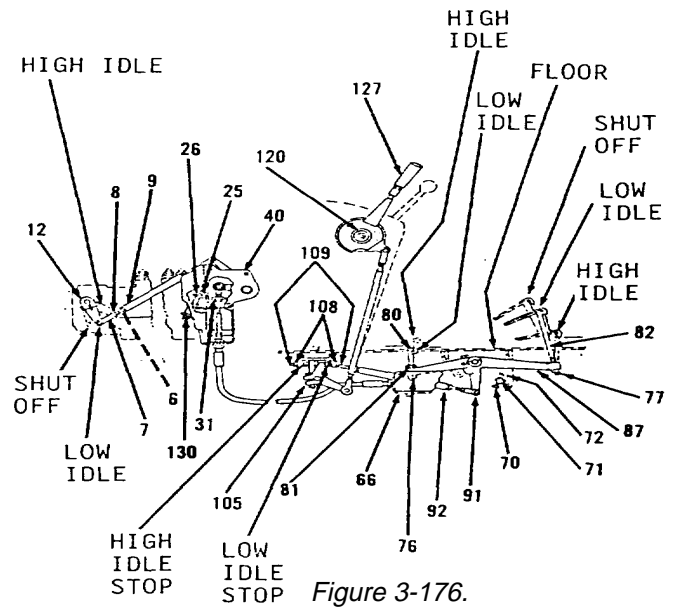

Figure 3-176.
28. Tighten nuts (8 and 6, Figure 3-176).
29. Install governor switch (130). Do not connect wires to switch. Refer to TM 5-3805-261-20.
30. Position lever (12) in shut-off position in housing (40).
31. Connect lamp tester to terminals on governor switch (130) and adjust bolt (25) until lamp lights dimly. Turn bolt (25) one additional turn. Connect wire assemblies to governor switch (130).
32. Tighten nut (26).